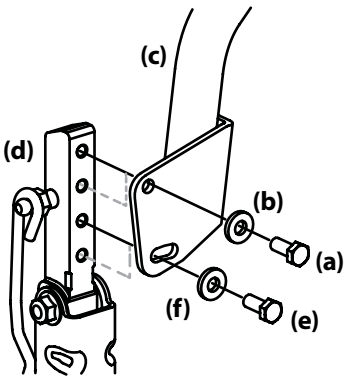

Figure 4-5
2. While supporting the drive control lever to keep it from falling, remove the hex screw (e) and flat washer (f) from the bottom of the drive control lever (c) and lower arm (d). Refer to Figure 4-5.
1. If not already loose, loosen the hex screw (e) and rotate the control lever either forward or rearward to the desired position. See Figure 4-5.